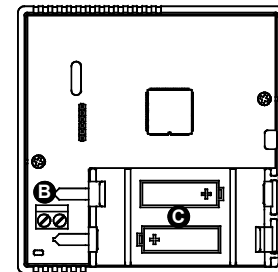
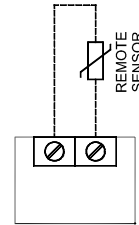

Fig. 6
Fig. 7
- 4** - Insert the batteries (respecting the correct polarity) in the battery compartment (C in Fig. 6); use only alkaline, brand new batteries.
- Connect the remot sensor (if present) using the 'REMOTE SENSOR' connector (B in Fig. 6), according to the wiring diagram shown in Fig. 7; then remember to set properly the parameter P10. Read the section 'INSTALLER CONFIGURATION'.